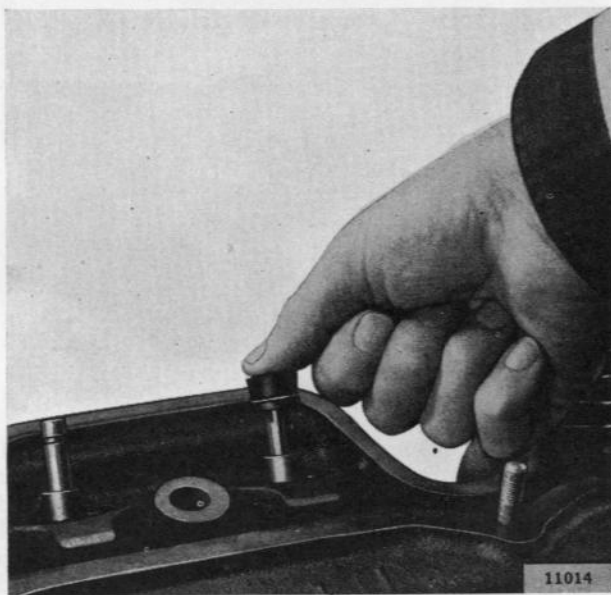

FIG. 123—STARTING VALVE GUIDE SEAL ON VALVE STEM
- d. Position the valve guide seal squarely on the end of the valve stem and push it down with the thumb until the thumb strikes the top of the plastic cap, as shown in Fig. 123.